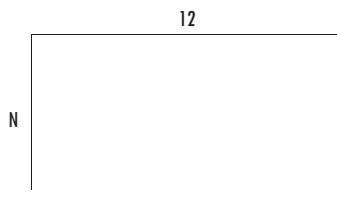

Figure 7-23
The roof *pitch factor* is the number of inches of roof rise (N) per one foot of roof run (12 inches), and is normally designated on the elevation section of the blueprints, as shown in Figure 7-23. This is also called the *slope* of the roof; pitch and slope mean the same thing to most builders.